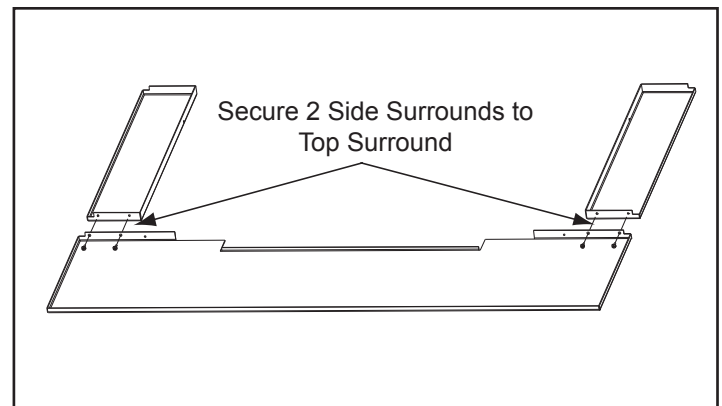

Figure 42.2
2. Using a 4 to 6 inches long Phillips head screw driver attach the side surrounds to the top surround using (2) #8 sheet metal screws on each side provided with the kit. **Figure 42.2**.